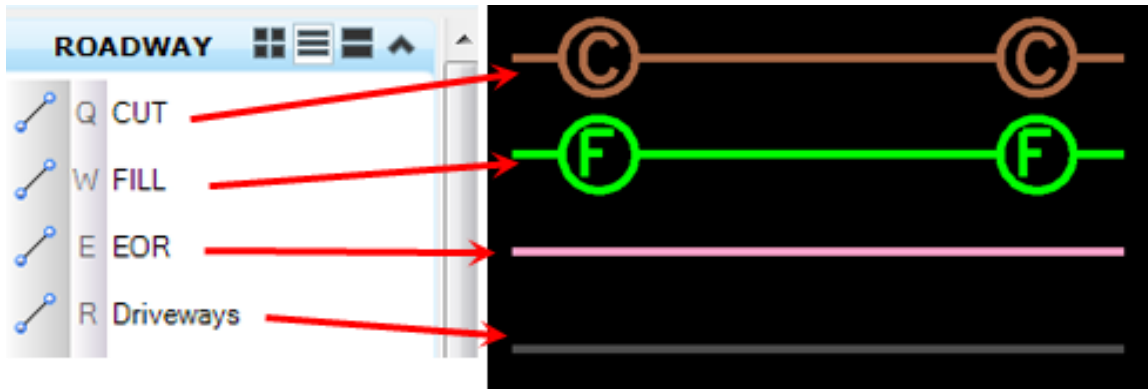
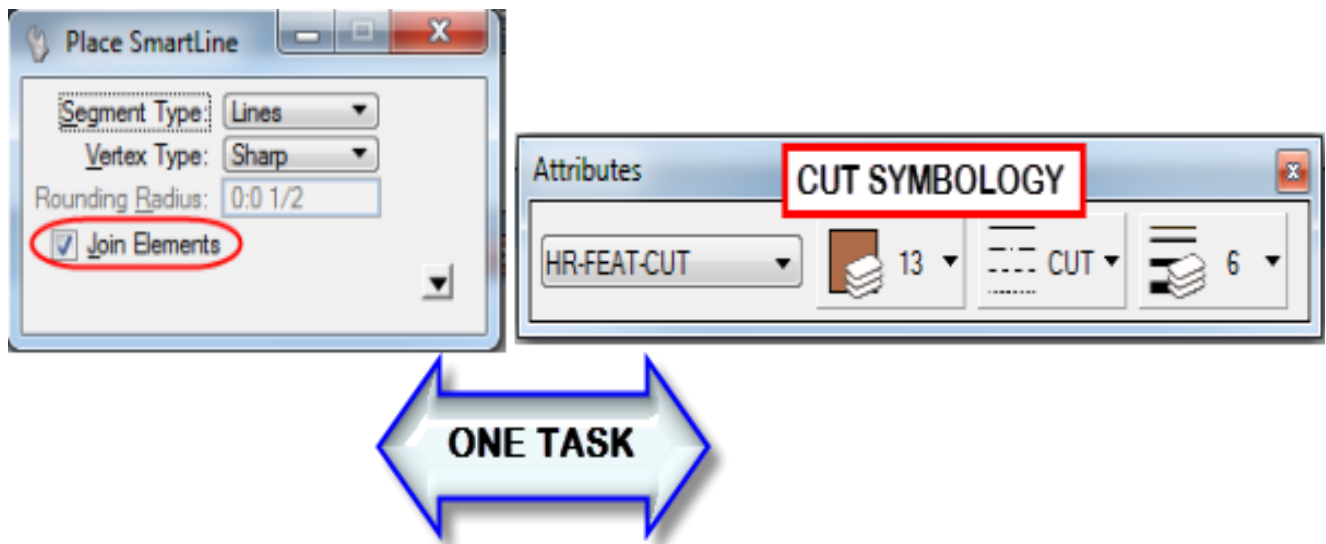

Figure 21 - Example Roadway Tasks
Figure 22 - Command Activated
1. To invoke the CUT task, **Click** on 'CUT' (Figure 21). The **Place Smartline** command (Figure 22) will be activated with the **CUT** symbology.